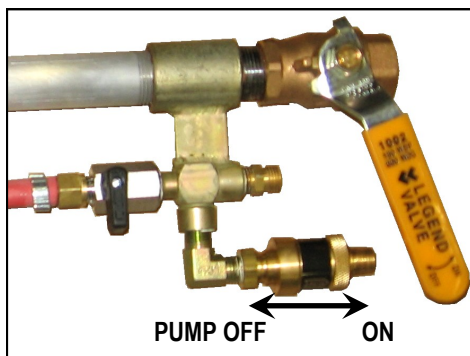

Fig. 3a Air-Switch Gun
3. Turn the pump OFF using the switch or valve on the gun (See Fig. 3a and 3b)